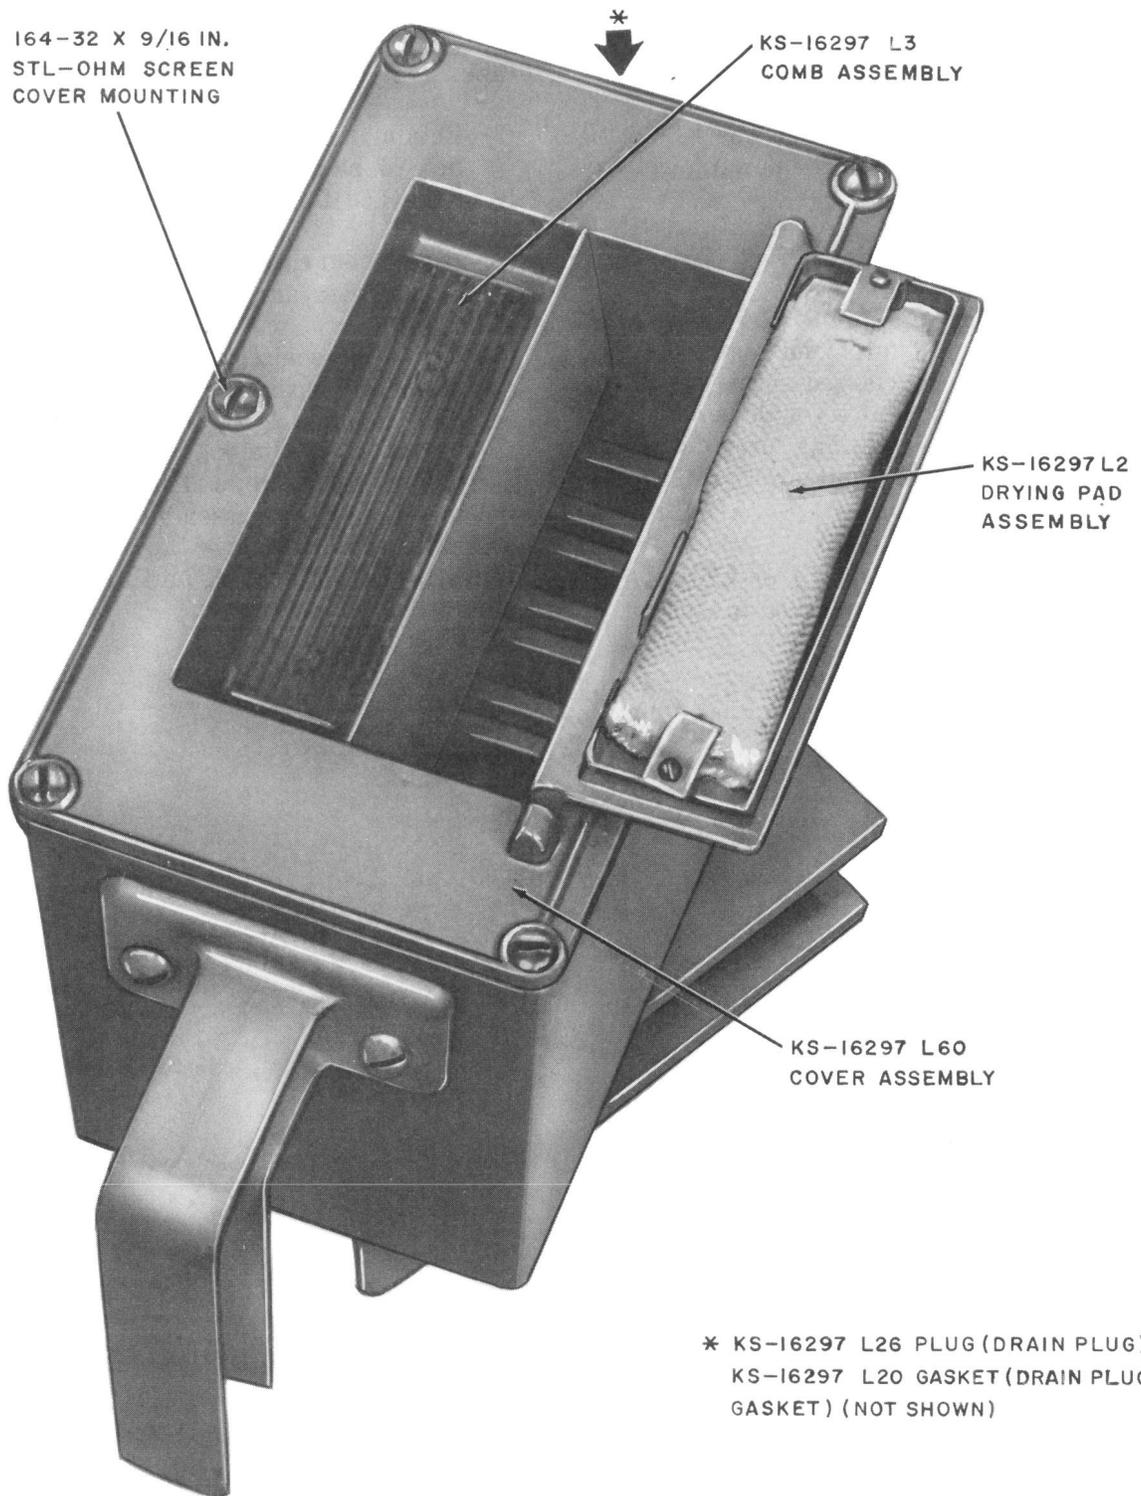

Fig. 14—Replaceable Parts of KS-16297 L70 Flushing Unit
8.01 Ordering information for parts of the flushing unit that can be replaced in the field is given in Fig. 14. The part numbers are given in the figures with the names of the parts as listed by the Western Electric Merchandise Department. Where these names differ from those in general use, the latter names, in some cases, are shown in parentheses.